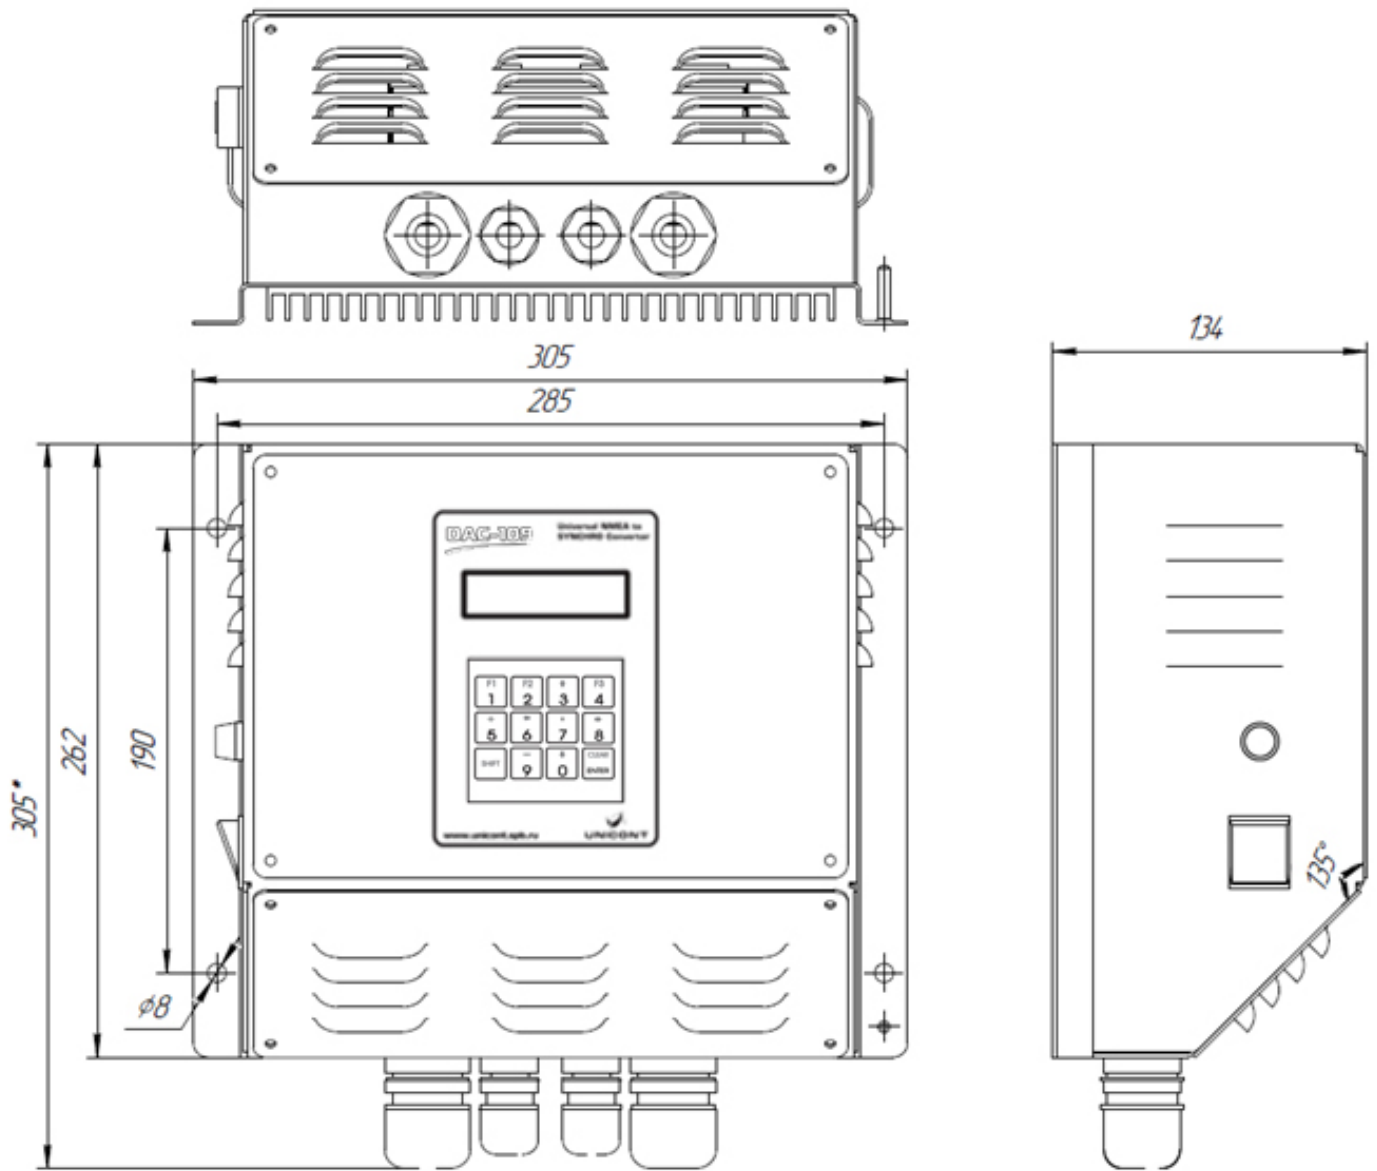

Figure 1. Outline drawing of the converter.
- a) Select the place for installation of the converter (at the vertical bulkhead or mounting panel) and prepare mounting holes as per outline drawing (see Figure 1).